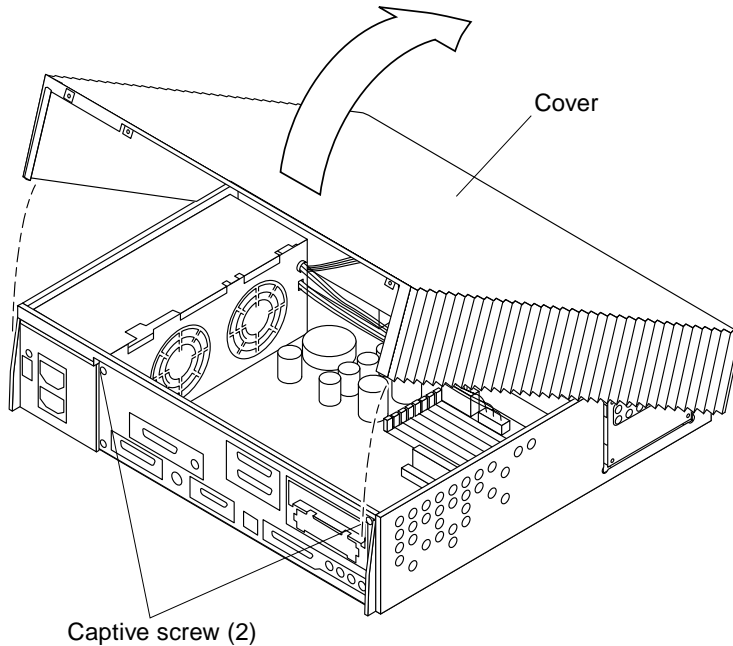

FIGURE 7-2 Removing the Cover
3. Loosen the captive screws securing the cover (FIGURE 7-2).